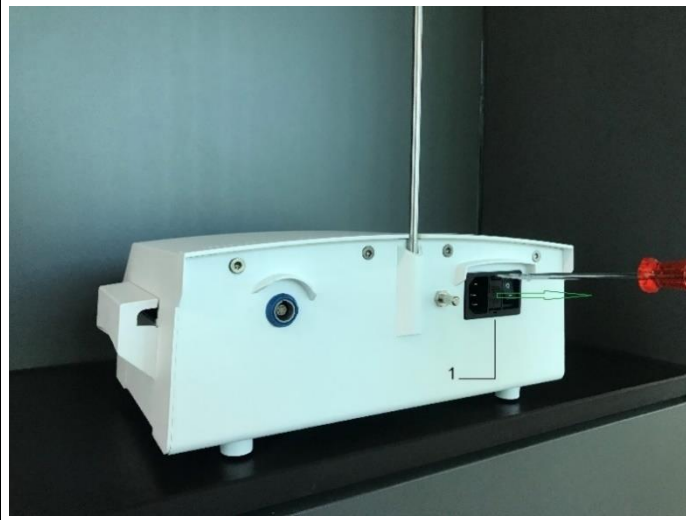

FIG. 1
- C. Remove the fuse box (1) with a flat screwdriver. (FIG. 1)